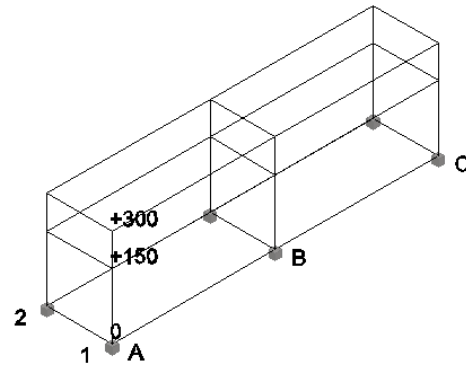

Figure 3-29 Model after adding footings
3. Choose the **Footing** tool from the **Parts** panel; you are prompted to select the insertion point. Place the footings at the bottom grid points, as shown in Figure 3-29.